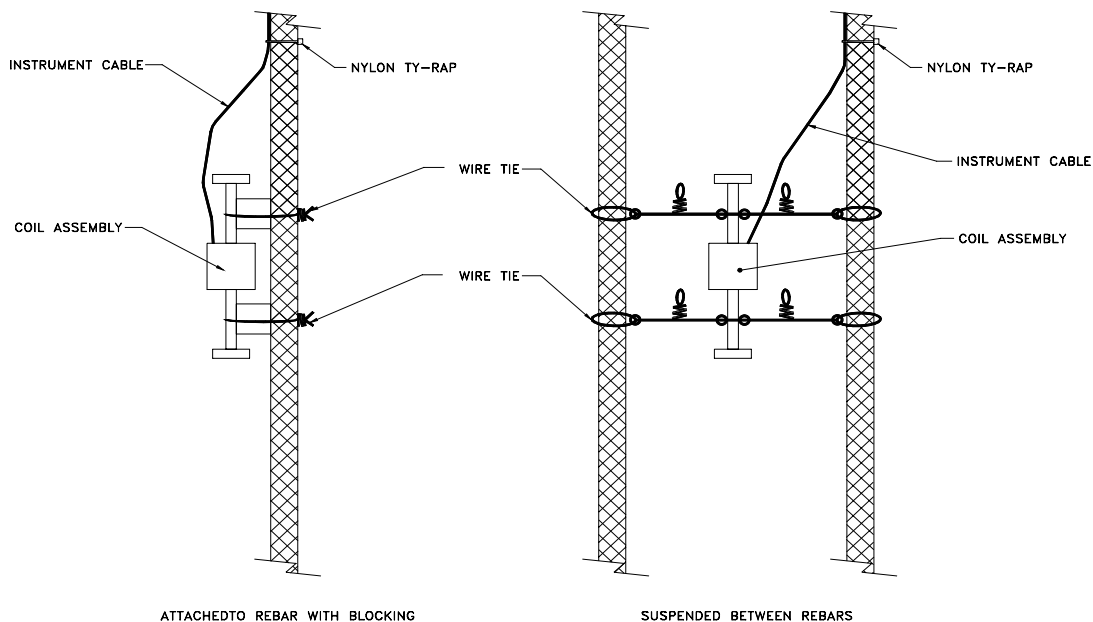

Figure 4 – Attaching VWSG-E1 Strain Gauges to Rebar
When casting the gauge directly into the structure care must be taken to avoid applying any large forces to the end blocks during installation. This is most imperative when installing the VWSG-E2. The models VWSG-E1 and VWSG-E3 can be wired into position by wiring directly to the tube (see Figure 4). The wires should not be tied too tightly since rebar and/or tension cables tend to move during concrete placement and vibration. Care should be taken not to damage the cable with the vibrator. The gauge can also be placed directly into the mix if it can be assured that the orientation will be correct after the gauge placement.
1. Wrap a layer of self-vulcanizing rubber tape around the gauge in the two places shown in Figure 4 (around the tie points). The rubber layer serves as a shock absorber, dampening any vibrations of the suspension system. Sometimes, without the rubber layers, as the tie wires are tightened the resonant frequency of the tie wires interferes with the resonant frequency of the gauge. This results in unstable readings or no readings at all. This effect disappears once the concrete has been placed.